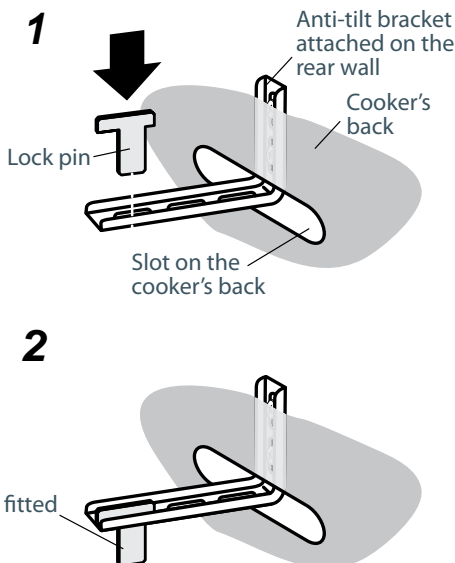

Fig. 5c Fitting the lock pin through the bracket
- Fit the lock pin through the bracket, as shown (Fig.5c).